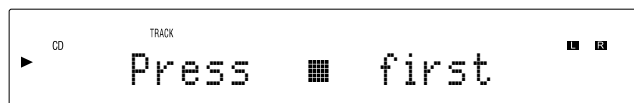

Figure 26
*Note: Before the Random Playback Mode feature on the MCD550 can be activated, the disc must be stopped or the message "Press ■ (stop) first" will momentarily appear on the Front Panel Display. Refer to figure 26.*